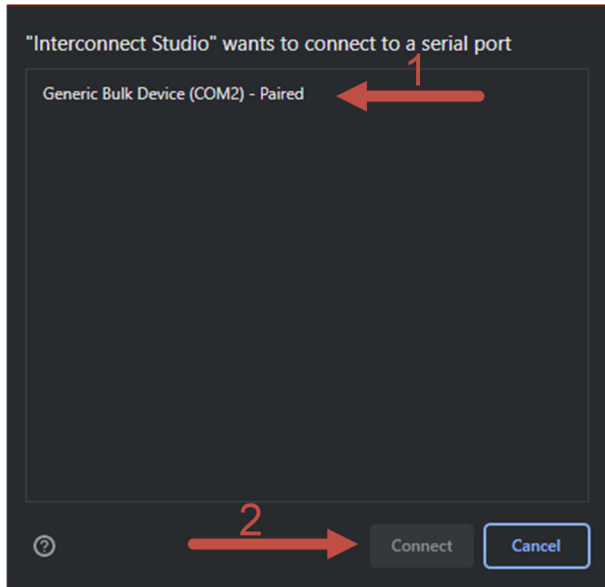

Figure 4-9. Configure Popup
Figure 4-9 - Clicking the Configure button opens a popup to connect the machine to a programmer. This list is filtered to only support TI Programmable and does not support custom boards. (1) Click the desired programmer if multiple are connected. This choice is remembered for the next configure as well. (2) Click connect and the communication starts.